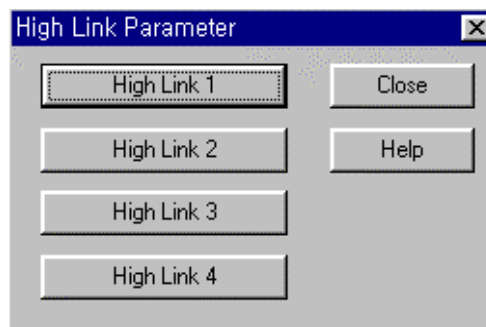

Fig. 6.2.4(B) Base screen of *high speed link* parameter
- (2) **Setting function** : *High speed link* 1~4 items of Fig. 6.2.4(B) means max. number of mountable communication modules according to PLC CPU type. GLOFA GM1/GM2/GM3 CPU are mountable up to 4 units, and GLOFA GM4 is up to 2 units.